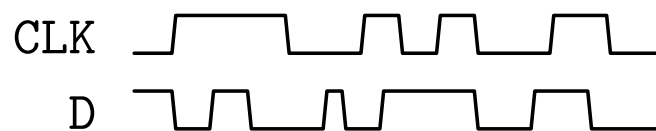

Figure A.1: Input waveform
A.1.1 Given the input waveform shown in Figure A.1, sketch the following: